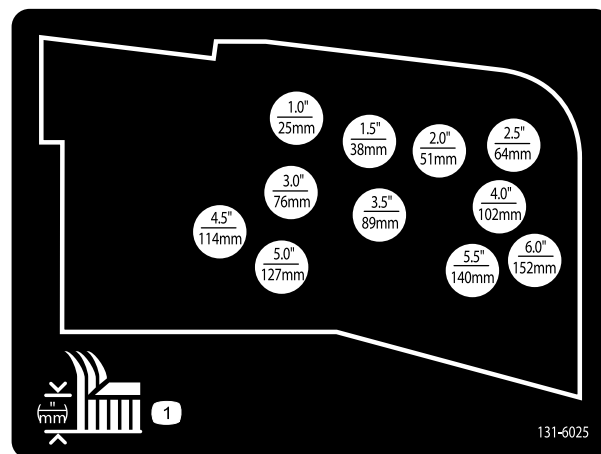

Figure 21
10. Mount the height-of-cut chains to the desired height-of-cut hole with the clevis pin and hairpin cotter (Figure 21).